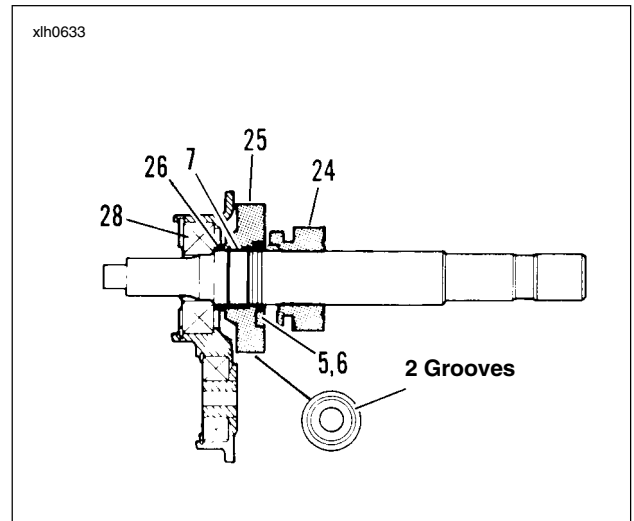

Figure 6-41.
2. See Figure 6-41. Place spacer (26) over mainshaft and position next to bearing (28). Position split bearing (7) into machined seat next to spacer (26). Locate mainshaft 4th gear (25), which can be identified by the two radial grooves at one side. Slide gear (25) onto shaft with radial grooves facing door. Position gear over bearing next to spacer (26).
3. Install thrust washer (6) and retaining ring (5) next to gear (25). It will be necessary to push the retaining ring into final position with a screwdriver.
4. Slide mainshaft 1st gear (24) onto mainshaft with the locking dogs facing gear (25). The shifter fork groove must face the access door.